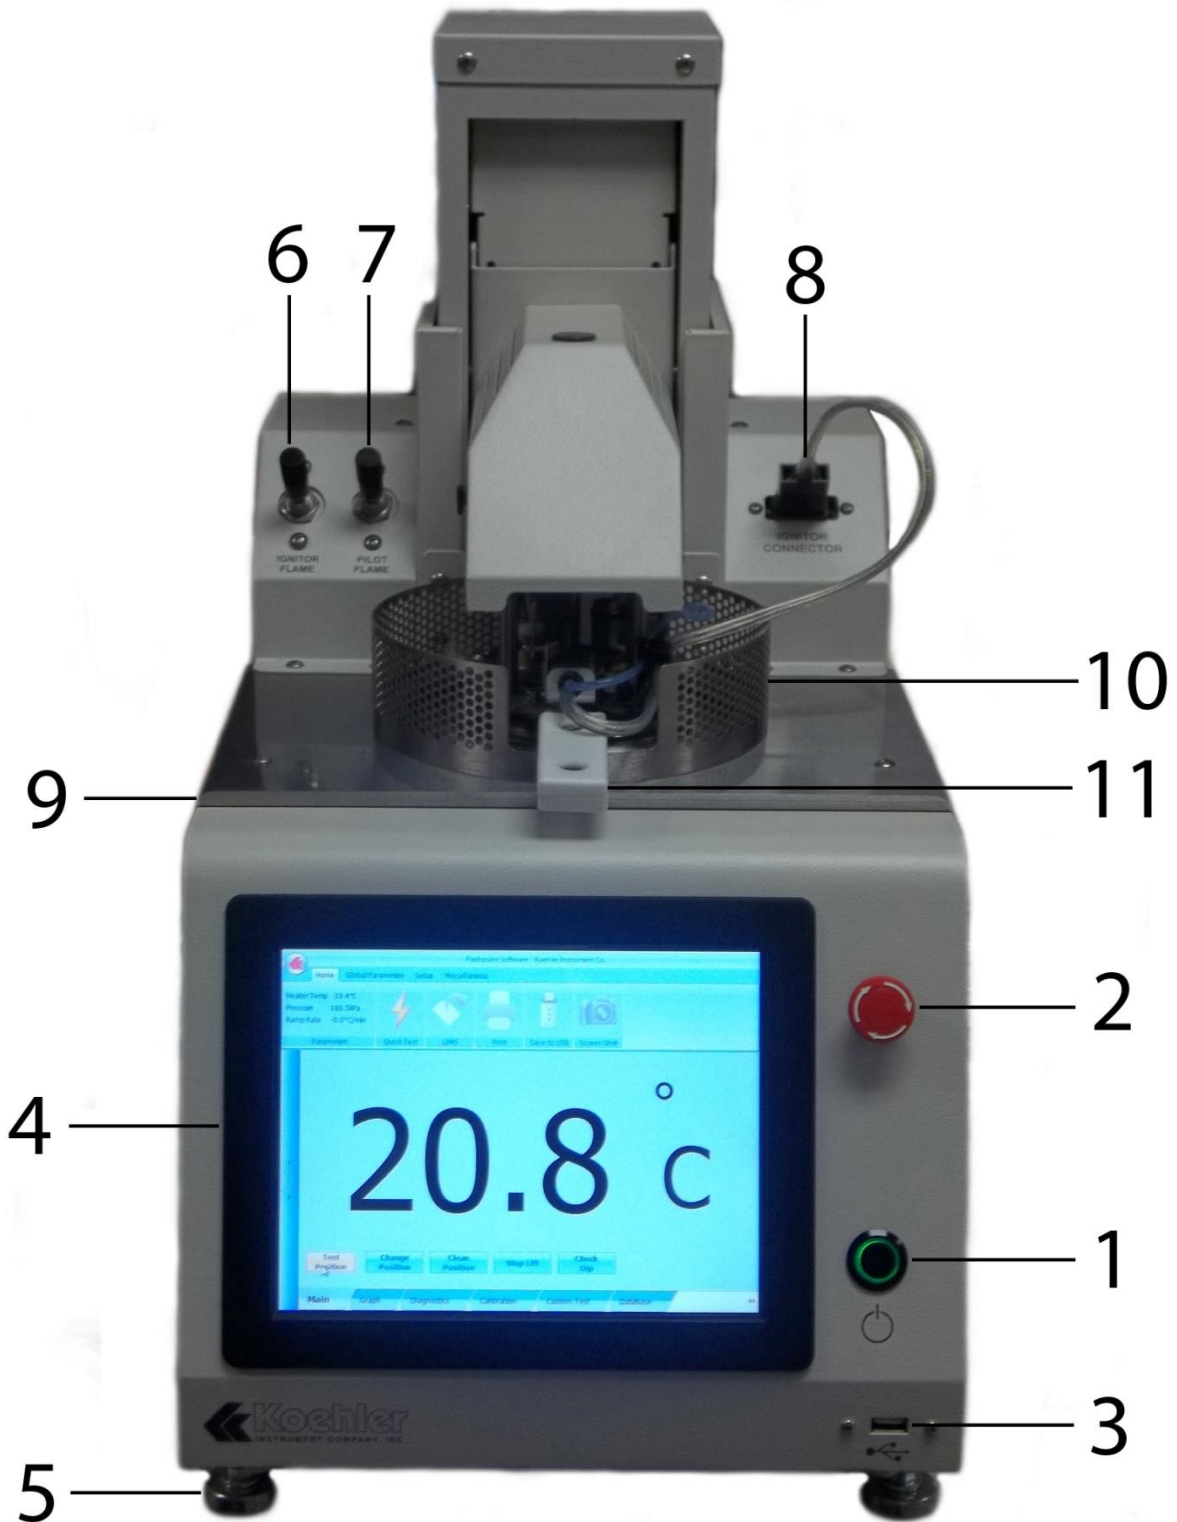

Figure 1: Instrument Descriptions_Front
12. **Power Switch:** Controls power to the entire unit. To power on the instrument, first press the Power Switch to ON then press the Power Button (**Figure 1, Item 1**) on the front on the analyzer.
- 31. **Electric Ignitor Cable:** Reinforced cable for connecting to Ignitor Connection Port (**Figure 1, Item 8**).